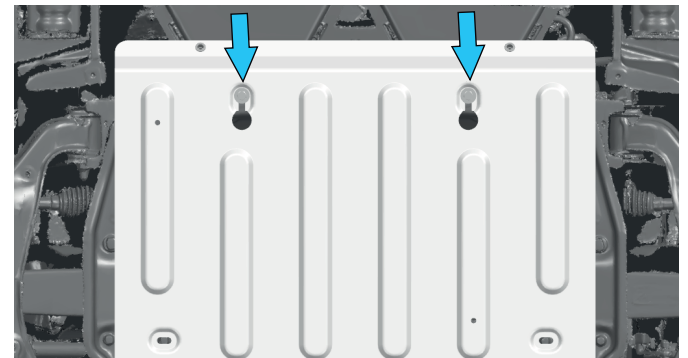

Fig. 6
6. Put the skid plate 2 (item 2) on pre-installed bolts M8x35 (item E), as shown in fig.6.